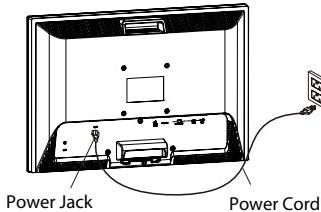

Figure 1-6
5. Connect the power cord to the LCD Monitor.(See Fig. 1-6)